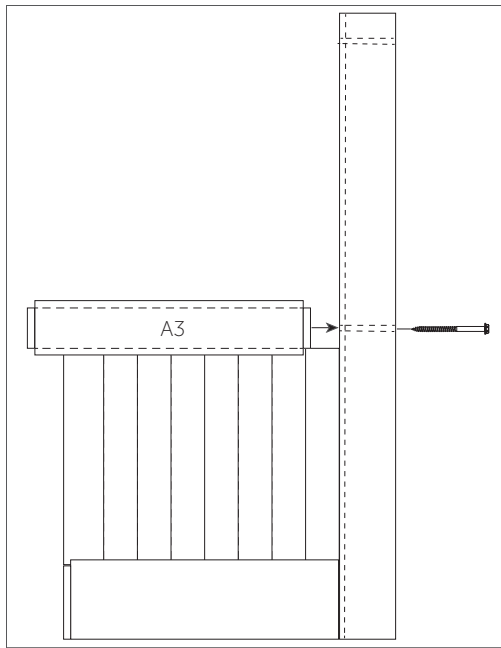

Figure 3
- Slide the center rail (A3) lower groove over the top of the lower slats. Tap with a rubber mallet into the right side stile. Attach the middle rail to the right stile rail using a socket wrench with a 7/16" socket and one lag screw (D) (Figure 3).